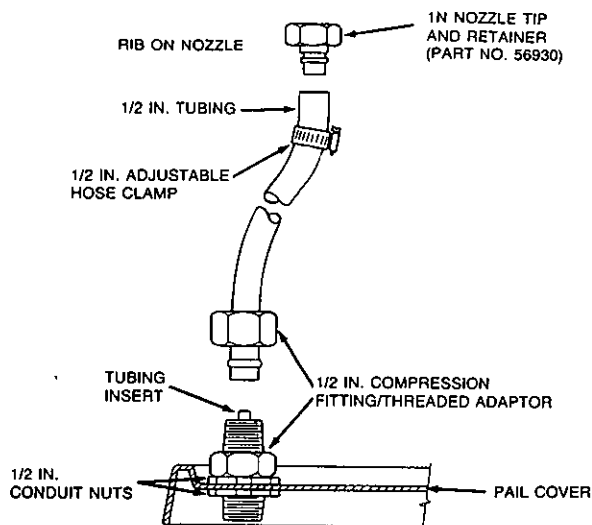

FIGURE 4
- Using a 1N nozzle tip and retainer, (Part No. 56930), slide a length of 1/2 in. (1.3 cm) plastic tubing over the rib on the nozzle tip and secure with a 1/2 in. (1.3 cm) adjustable hose clamp. See Figure 4. This nozzle tip will be connected to the nozzle body left installed in the distribution piping.
- Secure 1/2 in. compression fitting/threaded adaptors to the pail cover, using 1/2 in. conduit nuts. See Figure 4.
- Attach the tubing ends to the compression fittings. Tubing inserts will be required. See Figure 4.